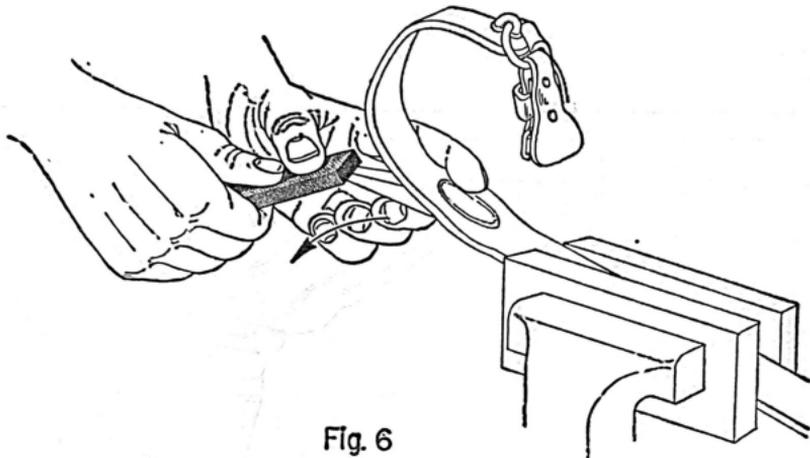

Fig. 6
2.08 After the filing and gauging is completed, complete the sharpening by using the standard honing stone. Place a few drops of light machine oil on the stone and hone toward point as shown in Fig. 6.